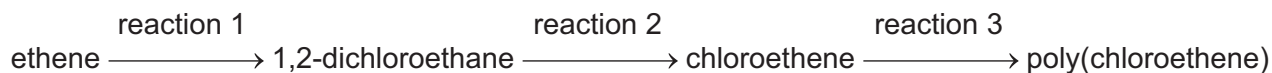

Figure 5.1
- 5 Figure 5.1 describes a sequence of reactions starting with ethene to produce poly(chloroethene), PVC.
5 (a) W is a colourless liquid.**Fig. 5.1**